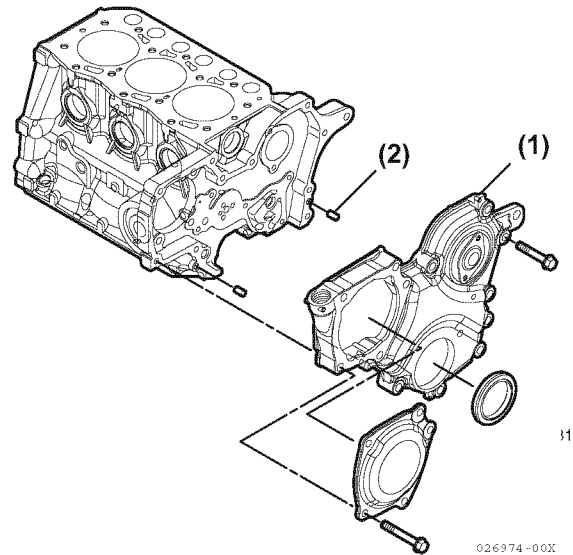

Figure 6-39
4. Remove the gear case cover (Figure 6-39, (1)).
5. Remove the dowel pins (Figure 6-39, (2)).